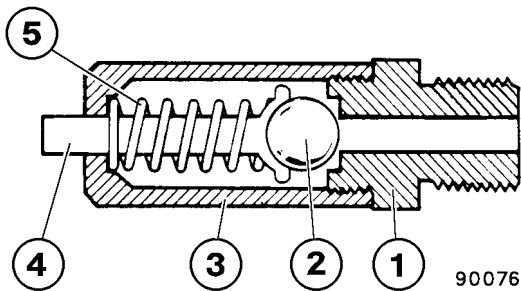

FIGURE 3-1. SAFETY VALVE
NOTE: Figure 3-1. may not represent the exact valve on the truck, but represents the internal working of most valves.
3. Lubricate the steering pump spline shaft and align with coupling (9). Install hoist pump to steering pump and install capscrews (10) with hardened washers and tighten to standard torque. Raise pumps up into position.
9. Open the three suction line shut-off valves (13 & 18, Figure 3-1). Loosen capscrews (at the pump) on suction hoses (12 & 16) to bleed trapped air. Then loosen capscrews (at the pump) on pressure hoses to bleed any trapped air. Tighten all capscrews securely.